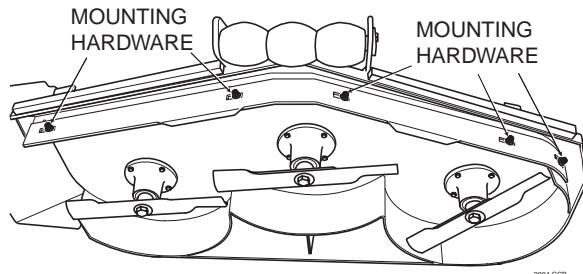

Figure 8. Custom-Cut Baffle
1. Remove the hardware securing the Custom-Cut Baffle to the cutter deck (See Figure 8).